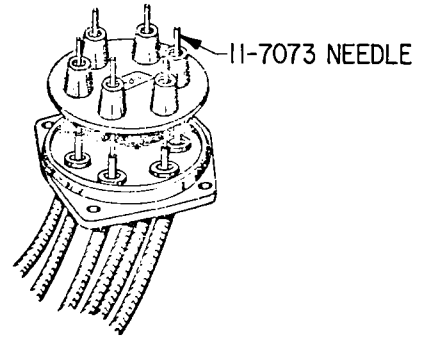
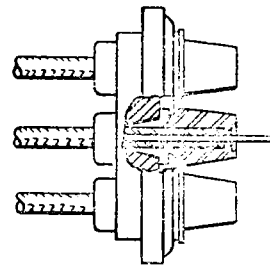

Figure 4-6. Installing Grommet Over Lead Assembly
Figure 4-7. Lead Assembly Installed in Grommet
g. Insert Bendix Tool No. 11-7073 needle through the small hole in the grommet and over stripped end of wire, figure 4-6. Slide grommet down needle until it seats tightly against the tapered ferrule. See figure 4-7.